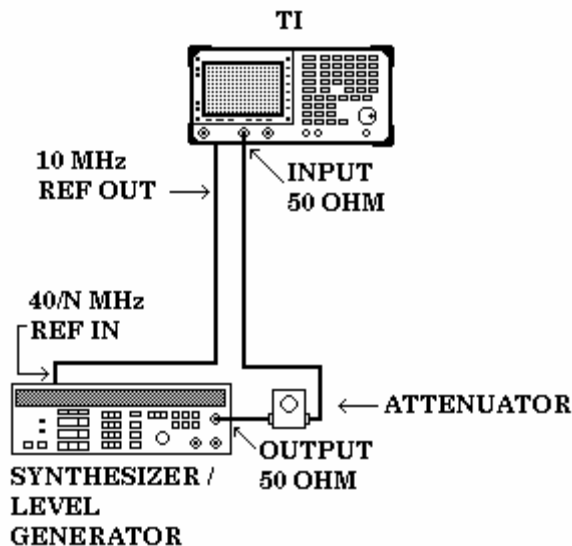

Figure 2. Input attenuator accuracy equipment setup.
- (1) Connect equipment as shown in figure 2.